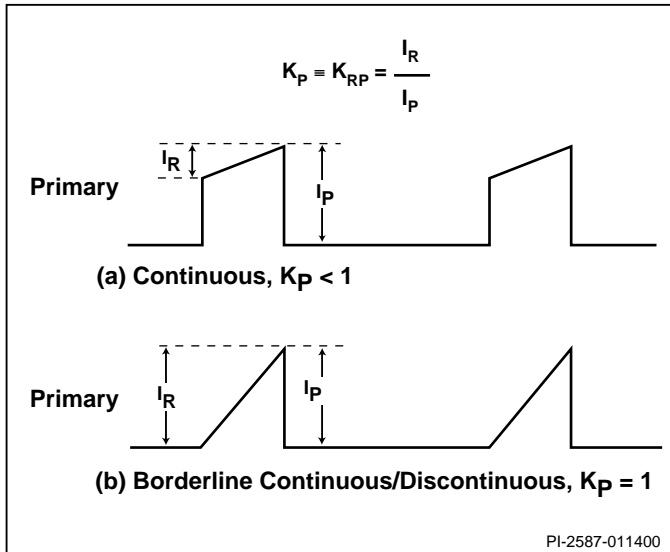

Figure 9. Continuous Mode Current Waveform, $K_p \leq 1$.
Step 5. Set current waveform parameter K_p for desired mode of operation and current waveform: $K_p \equiv K_{RP}$ for $K_p \leq 1.0$ and $K_p \equiv K_{DP}$ for $K_p \geq 1.0$ (Figures 9 and 10)
- For $K_p \leq 1.0$, $K_p \equiv K_{RP}$, continuous mode (see Figure 9)